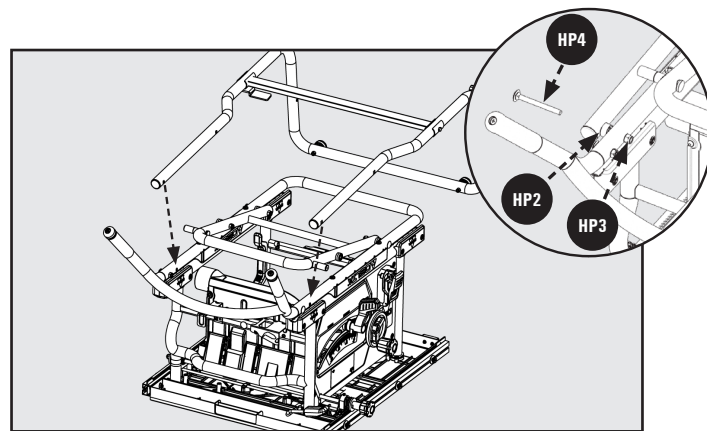

Figure 7
6. Attach Leg Assembly (assembled in Step 3) to the Upper Stand Support (pre-attached to Saw). Insert M8 Plastic Spacer (HP2) between Legs and secure with M8 x 75mm Carriage Screw (HP4) and M8 Locknut (HP3). Secure using the 13mm Combination Wrench. See Figure 7.